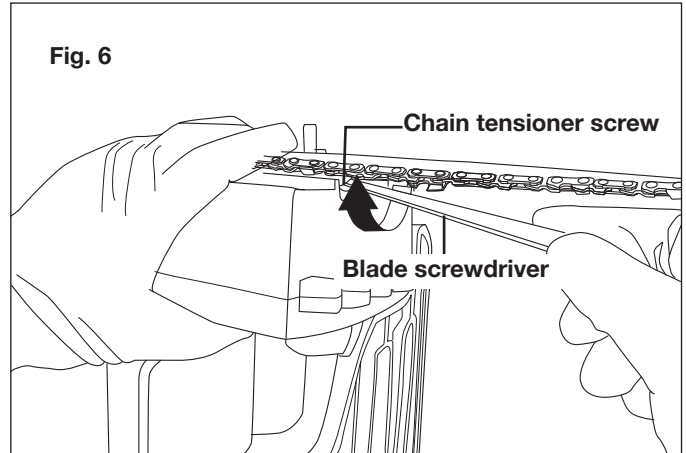

Fig. 6
- While keeping the bar and chain flush against the mounting surface, adjust the chain tension as needed by adjusting the chain tensioner screw with the supplied flat-tip blade screwdriver. Turn the chain tensioner screw clockwise to tightening the chain, or counter-clockwise to loosen the chain (Fig. 6).